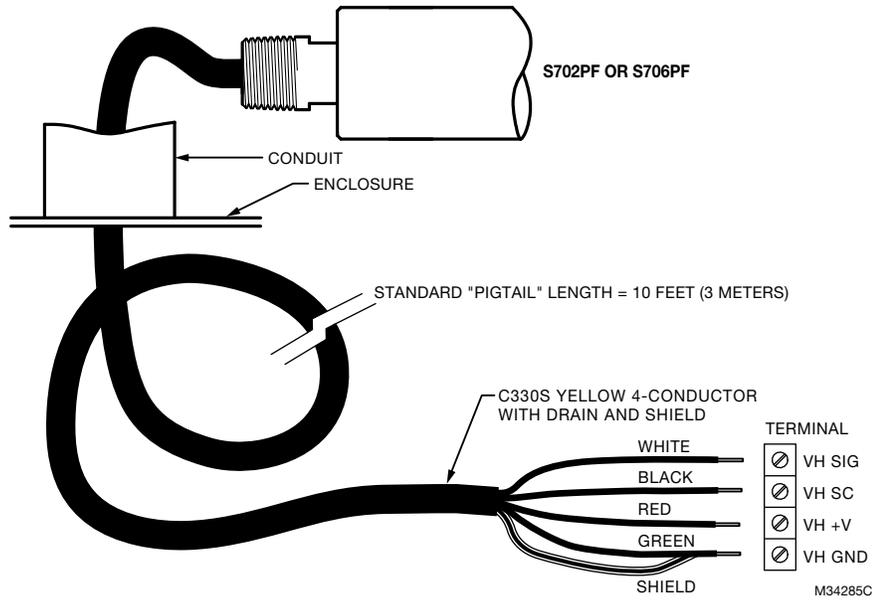
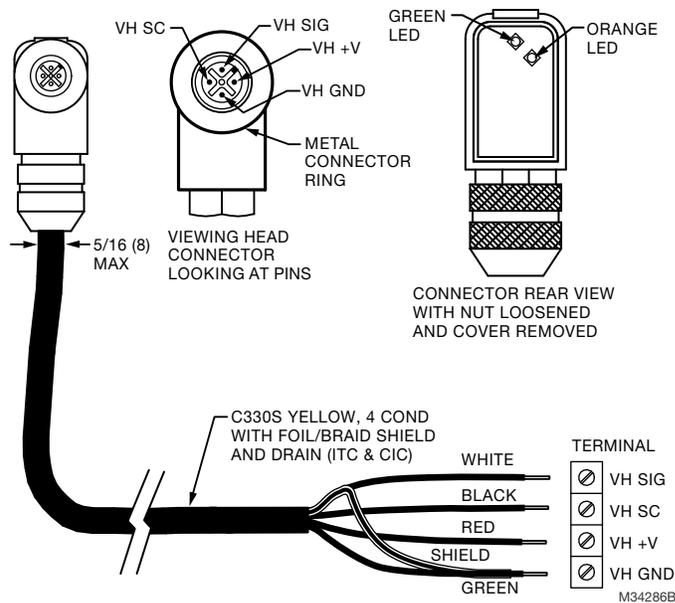
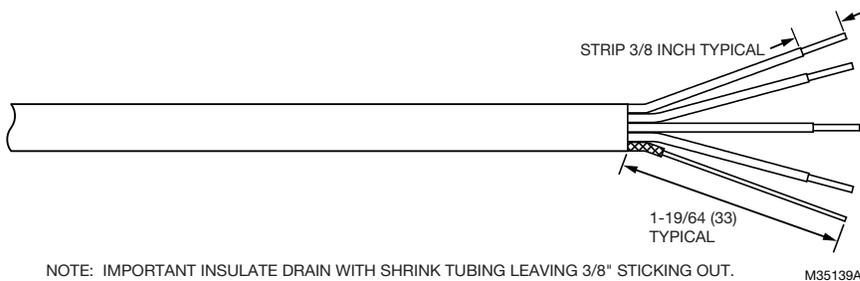

Fig. 3. Model 700 Viewing Head Cable With 1/2 in. NPT Fitting.
Fig. 4. Model 700/800 Viewing Head Cable Connections.
Fig. 5. C330S Signal Processor End Cable Preparation.
Connectors and cables are shown in Fig. 3, Fig. 4, and Fig. 5. Fig. 3 shows the viewing head cable with the 1/2 in. NPT pipe fitting and pigtail for use in a conduit. The PF model comes with 10 feet of Honeywell C330S cable. This cable is recommended for all new installations. It has ITC and CIC ratings for hazardous location. Figs. 4 and 5 describe the C330S cable used with the right angle field-wireable connector. Refer to "Accessories" on page 11 for part numbers.
1. Referring to Fig. 5, strip cable 2 inches back to expose the braided shield.
4. Strip other wires as shown in Fig. 5.
1. Prepare C330S wire at plug end similarly to Fig. 5.
- a. Wires and LEDs are in proper locations per Fig. 4.